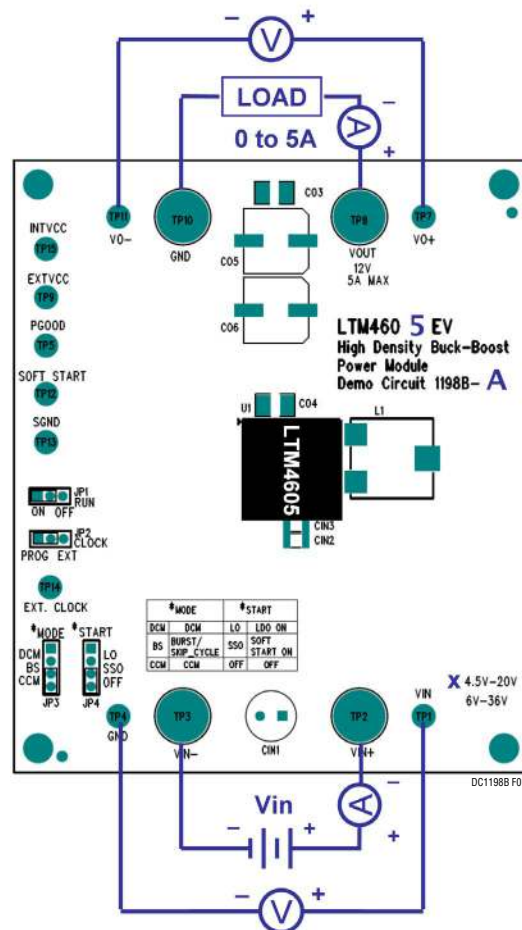

Figure 1. Test Setup of DC1198B-A
Demonstration circuit DC1198B-A is an easy way to evaluate the performance of the LTM4605EV. Please refer to Figure 1 for proper measurement equipment set-up and follow the procedure below:
2. With power off, connect the input power supply, load and meters as shown in Figure 1. Preset the load to 0A and VIN supply to be less than 20V.